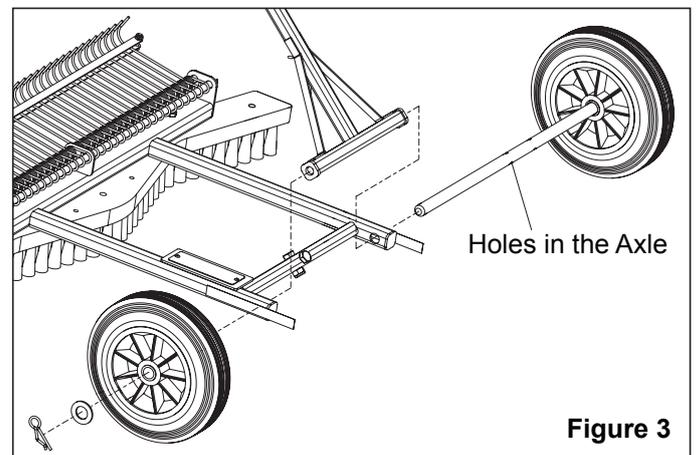

Figure 3
1. Slide the Axle through the hole in the side of the Head, through the tube at the bottom of the Lower Handle and through the hole on the other side of the Head. Ensure the holes in the Axle line up with the holes in the tube of the Lower Handle and secure using M6 Set Screws, Washers and Nyloc Nuts. (*See Figure 3*)
2. Slide 1 off Wheel and 2 off M14 Washers (1 each side of the Wheel) onto each end of the Axle and then secure each side with 1 off R-Clip. (*See Figure 3*)